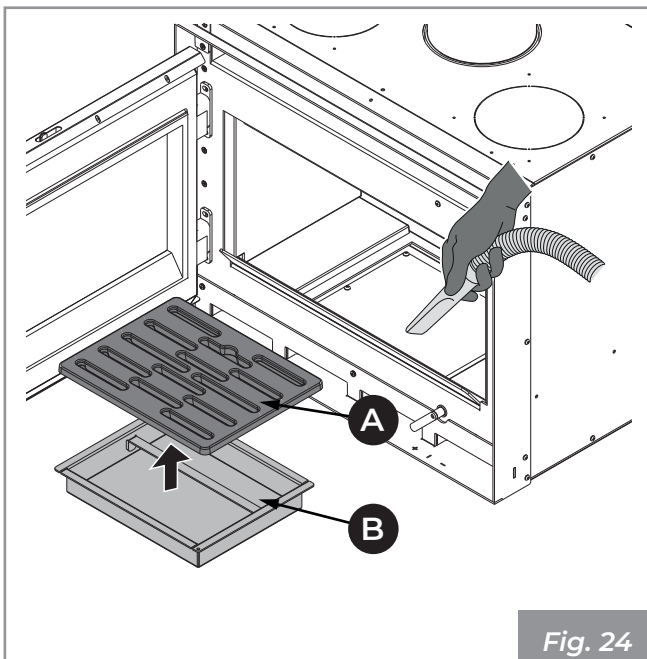

Fig. 24
- 1) Carefully clean the grate (A) (Fig. 24). Remove it and clean the fire box using a hand brush (not supplied) brushing the combustion residues into the ash drawer.